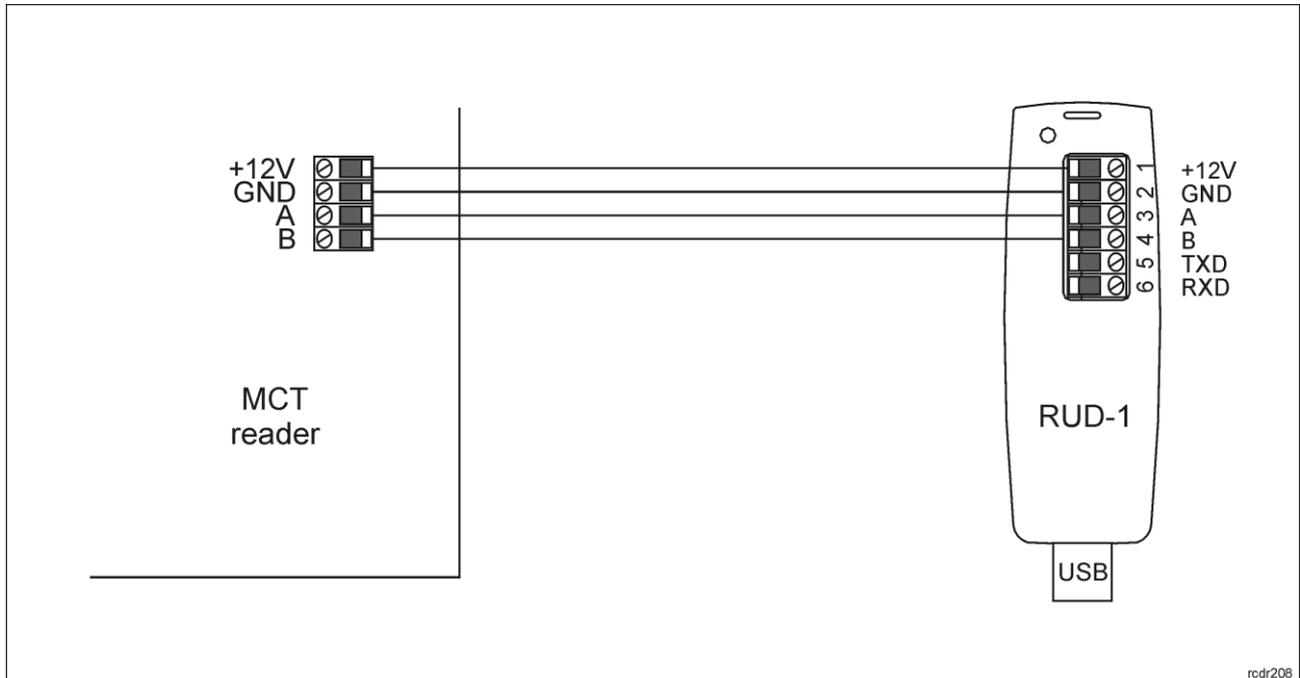

Fig. 18 Connection to RUD-1 interface.
The purpose of low level configuration is to prepare device for operation in RACS 5 system. In order to start the configuration, connect the terminal to RUD-1 interface (fig. 18) and start RogerVDM software.
2. Connect the device to RUD-1 interface according to fig. 18 and connect RUD-1 to computer's USB port. The terminal will display CONFIG MODE text and orange LED SYSTEM will pulsate.